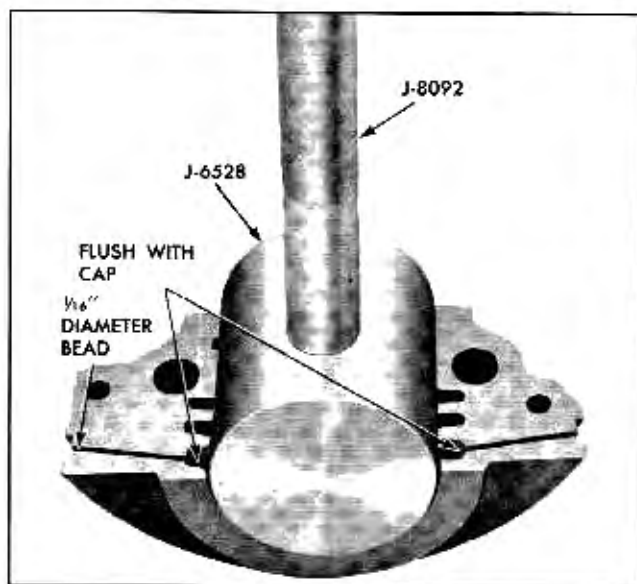

Fig. 6-33 Lower Seal Installed in Bearing Cap
10. Install a new seal in rear main bearing cap using Tool J-6528 to pack seal tightly. Be sure to pack seal tightly into groove and trim flush with cap (Fig. 6-33).